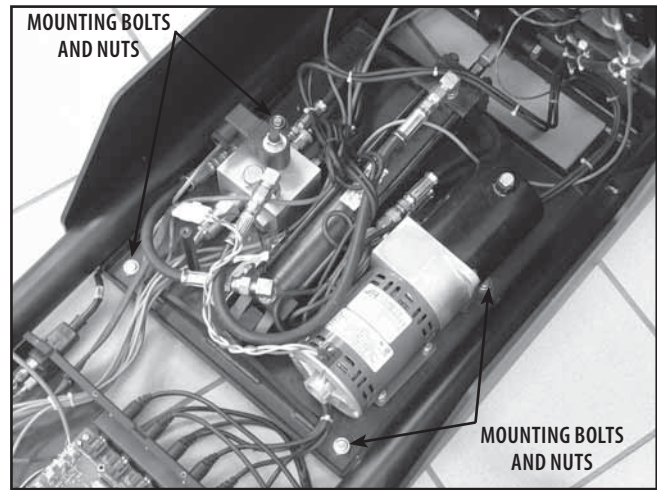

FIGURE 5.15
6. Remove the four Hydraulic Assembly Mounting Bolts and Nuts. Remove assembly from table frame. See Figure 5.15.